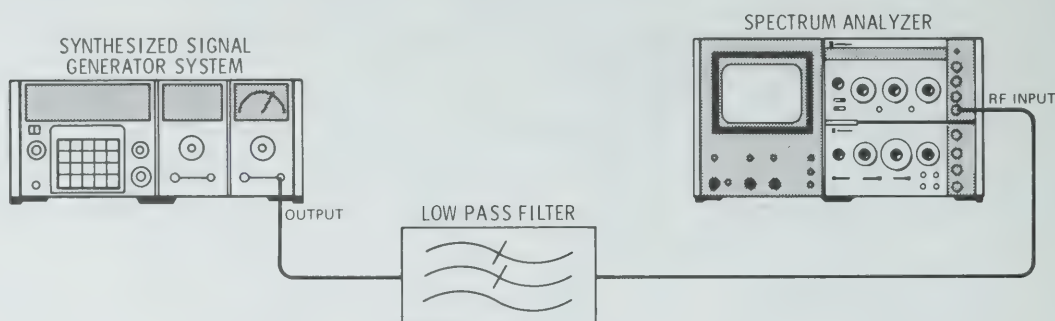

Figure 4-16. Wideband Spurious Signal Test Setup
1. Connect equipment as illustrated in Figure 4-16.